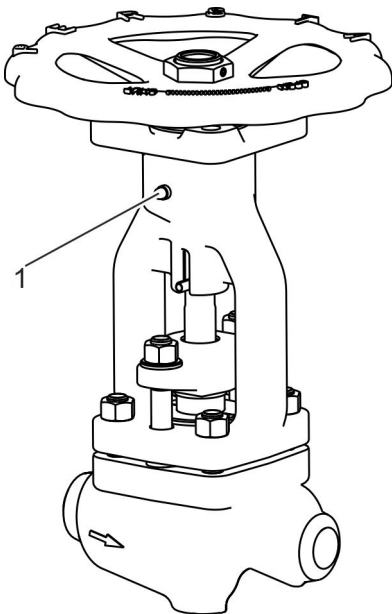

Fig. 21: Version with lubricating nipple
- Grease stem thread and bearing via lubricating nipple (Fig. 21/1).